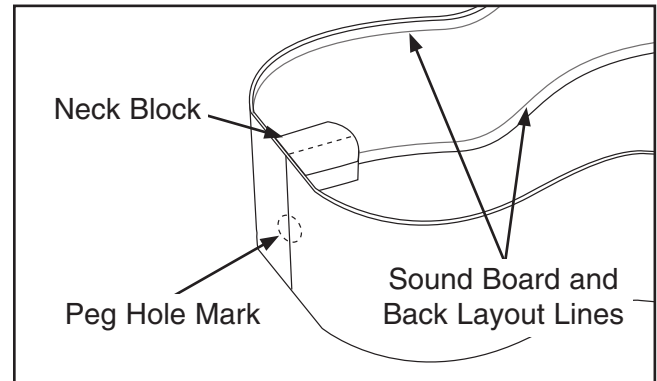

Figure 4. Illustration of hole markings transferred to sides at neck block.
5. Mark the peg hole on the outside of the sides at the neck block by lining up the blocks with the sound board and back layout lines and making a hole mark (see **Figure 4**).